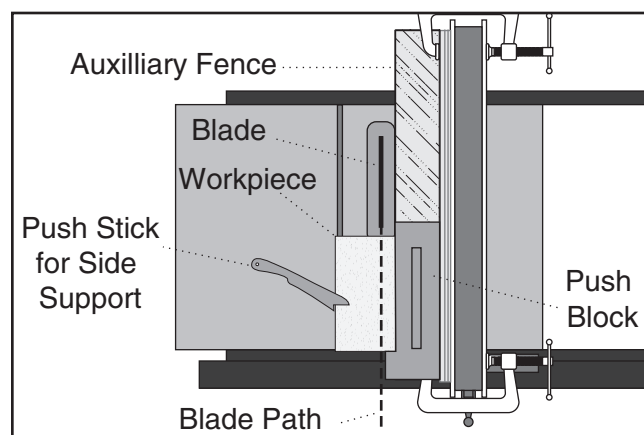

Figure 106. Push block in position to push workpiece through blade.
3. Place the workpiece 1" behind the blade and evenly against the table and the auxiliary fence, (see **Figure 106**).